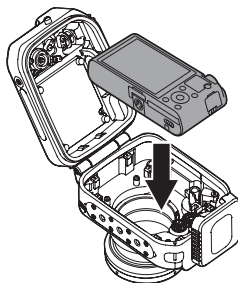

Fig.2
- 2 Turn off the power of the camera and place it as shown in Fig.2